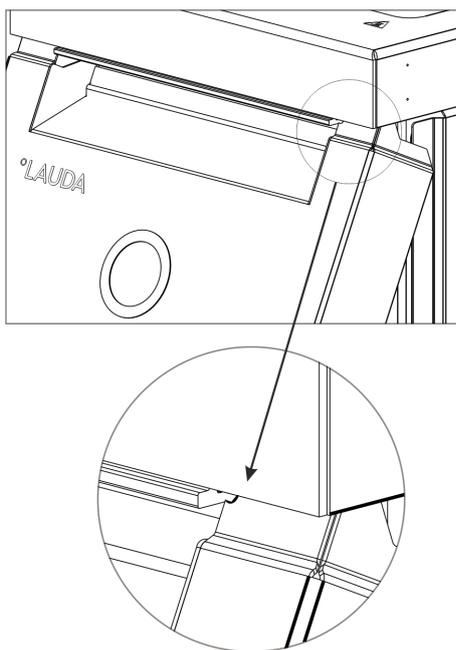

Fig. 40: Curves on the front panel
2. Push the front panel upward but make sure that the curves are still visible Fig. 40.